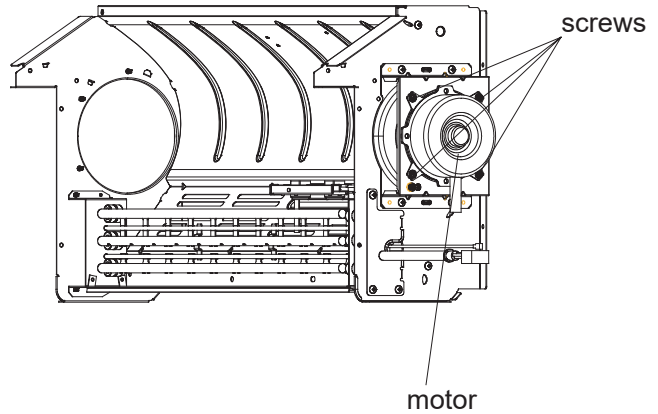

Figure 519
8.2 Remove 4 Phillips screws. See Figure 519.